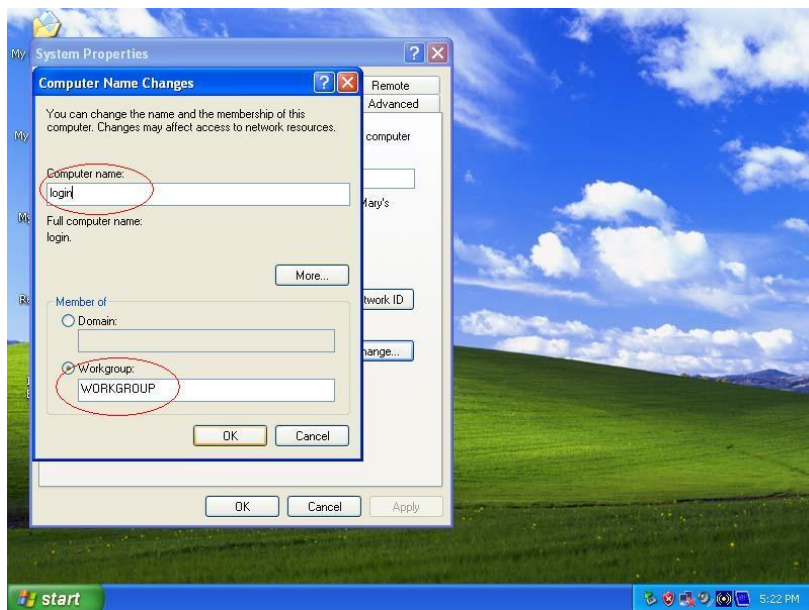

Figure 1.3
1.3 Make sure there is name under “Computer Name” and a “Workgroup” name. If there are none, input a computer name and workgroup name. Usually the workgroup name is “Workgroup”. See Figure 1.3